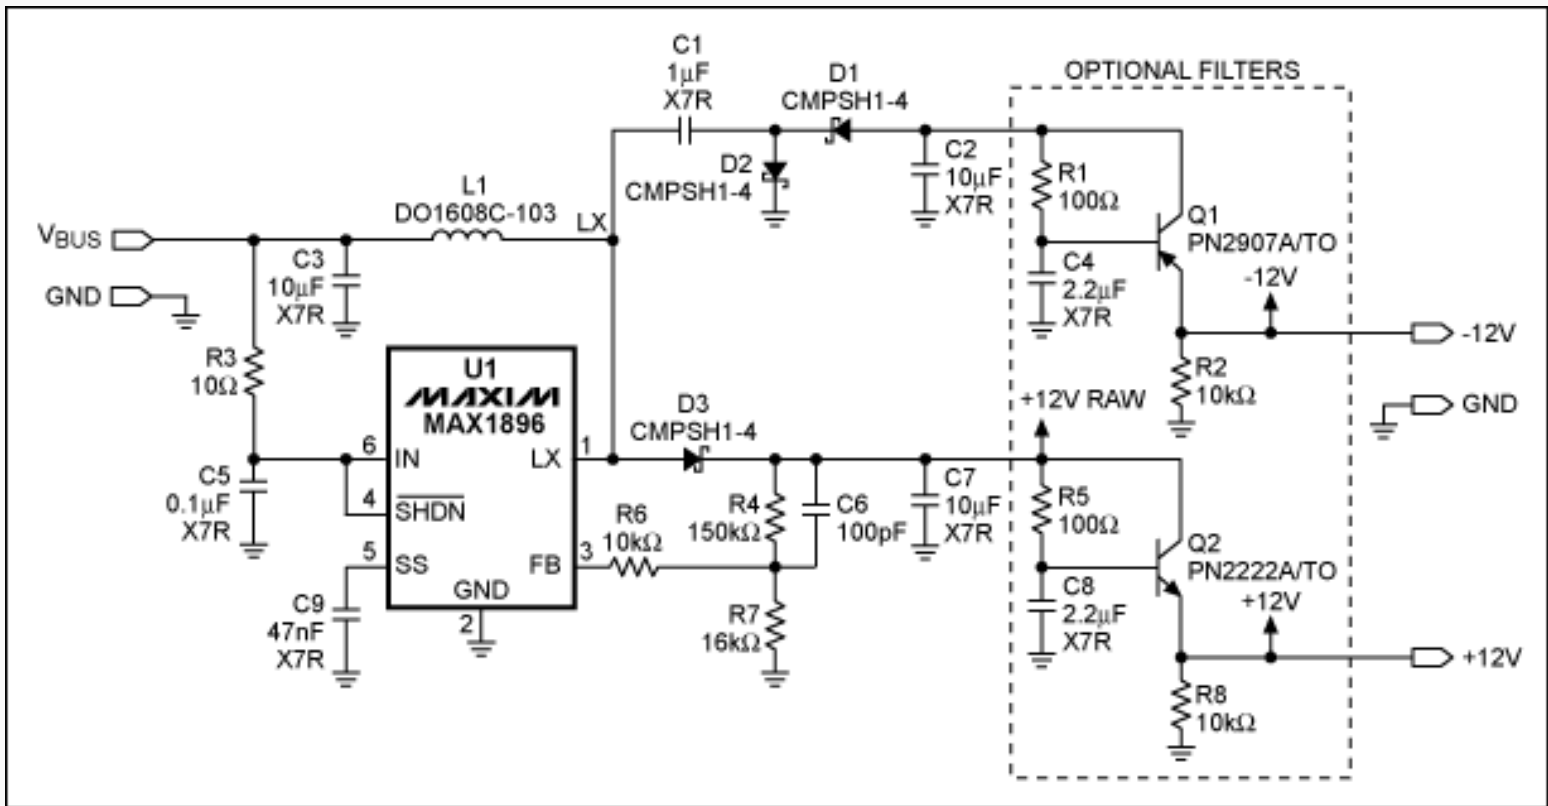

Figure 1. Powered only by a USB port, this ±12V supply delivers 50mA from both outputs with reasonable output regulation.
**Figure 1** shows a simple USB-powered, ±12V supply capable of meeting most demands. Such bipolar supplies—popular for use in audio, instrumentation, and other industrial applications—should feature low noise, current limiting, and enough output-current to drive several amplifiers drawing 5mA to 10mA each.
Figure 2. Negative supply load regulation. With a 50mA load connected to the +12V output in Figure 1, this graph shows typical load regulation of the -12V output.
The MAX1896's constant-frequency operation allows simple filtering and produces less noise than a frequency-modulation scheme. The high switching frequency is easily filtered with passive LC filters or with external transistor-buffered RC filters, as shown in Figure 1. As always for switching converters, a good PC-board layout is essential for low-noise operation. Further advice on these matters is available in the MAX1896 data sheet.